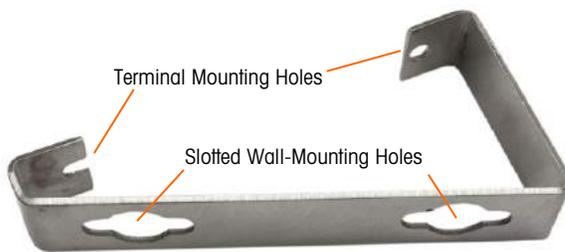
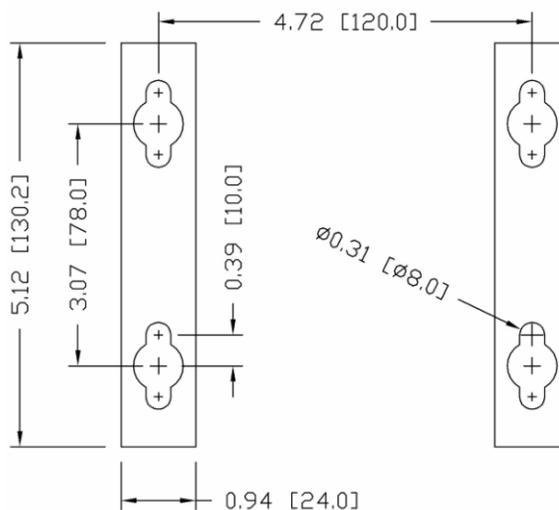

Figure A-12: Wall-Mounting Bracket
Figure A-14: Mounting Hole Pattern
Once the brackets are securely fastened to the wall surface, the enclosure can be mounted to them using the four supplied M4 screws. One bracket is shown in Figure A-12, with the slotted holes indicated. The screws are tightened by fitting the screwdriver through the slotted holes.
Mark the position of the mounting holes on the vertical surface per the dimensions shown in Figure A-14 in inches and [mm], or by holding the terminal up to the surface and marking through the bracket holes.
8. Back each bolt out enough to leave space for its head and the flat washer to engage the top center of one of the slotted holes in the mounting brackets (see Figure A-12 and Figure A-14).
6. Back the bolts out sufficiently to allow them and their washers to engage the top center of one of the slotted holes in the mounting brackets (see Figure A-12 and Figure A-14).
Install the screw and washer, leaving sufficient gap to accommodate the slotted hole in the bracket – see Figure A-12 and Figure A-14.
Place the holes in the terminal brackets over the fasteners, and slide the terminal down firmly so that each fastener and washer engages the slots in the bracket (see Figure A-12).